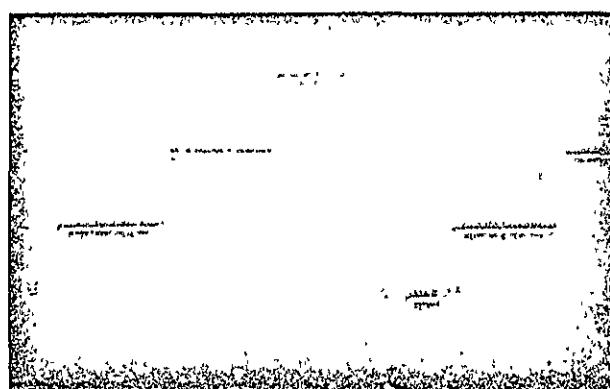

Figure 3-4. SPLITTER V/A INPUT 3-step test signal with interleaved audio
2. Monitor the signal at the front panel SPLITTER V/A INPUT test jacks. Adjust the INTERLEAVER V/A OUT 1 LEVEL control for a composite video signal level of 1.0 V pp at the test jacks (refer to Figure 3-4).
3.3.2.2.3 Splitter V/A Input, Interleaved Audio (Refer to Figure 3-4)